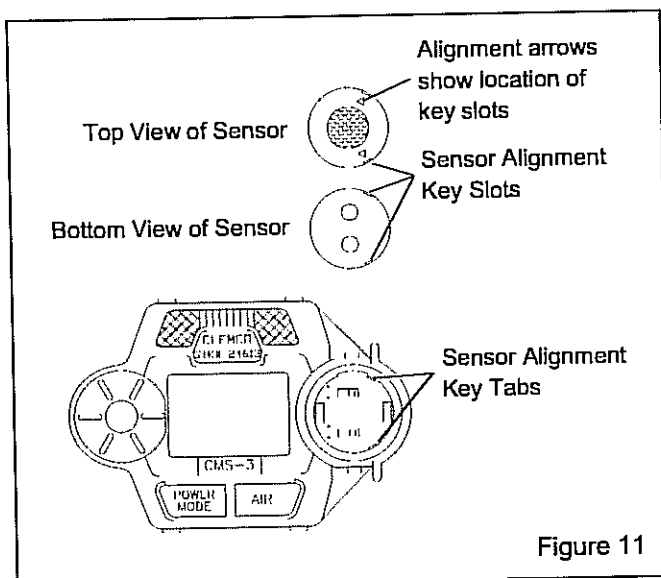

Figure 11
5.2.4 Carefully remove the old sensor from the sensor socket. **NOTE:** The sensor is keyed and can only be inserted in the socket one way. Note the orientation of the old sensor, as shown in Figure 11 before removing it.
5.2.5 Carefully insert the replacement sensor in the socket. Make sure the sensor face with the colored ring is facing up, and that the sensor key slots are properly aligned with the key tabs in the socket as shown in Figure 11, before inserting.